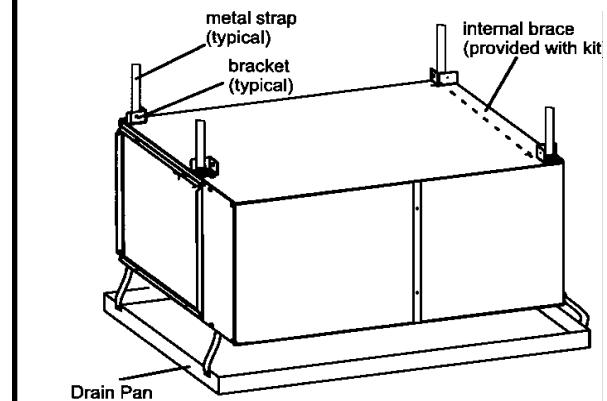
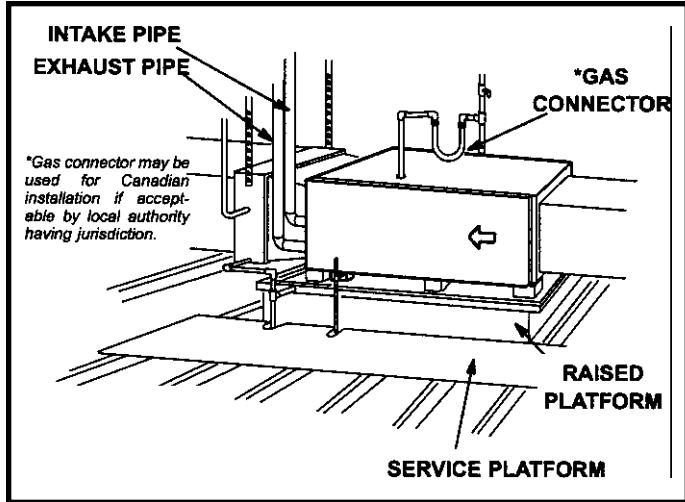

Figure 18
Figure 19
2. Construct a raised wooden frame and cover frame with a plywood sheet. If unit is installed above finished space, fabricate an auxiliary drain pan to be installed under unit. Set unit in drain pan as shown in Figure 19. Leave 8 inches for service clearance below unit for condensate trap.
This furnace may be installed in either an attic or a crawl space. Either suspend the furnace from roof rafters or floor joists, as shown in Figure 18, or install the furnace on a platform, as shown in Figure 19. A horizontal suspension kit (51W10) may be ordered from your distributor or use equivalent.